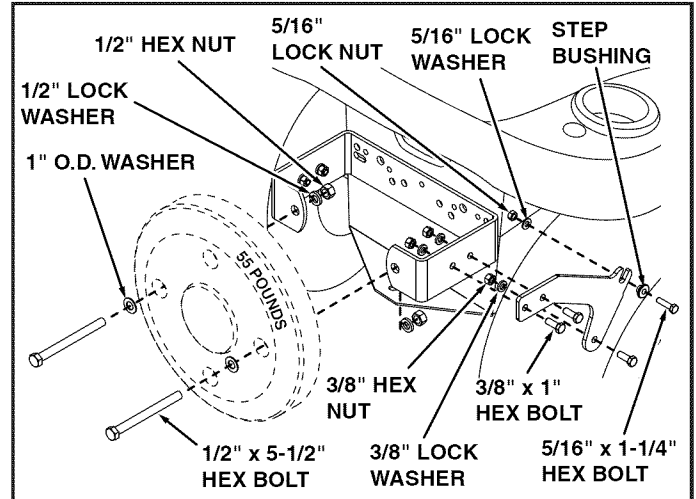

FIGURE 1
1. Assemble the non-slotted end of the weight bracket arms to the sides of the drawbar using two 3/8-16 x 1" hex bolts (3), 3/8" lock washers (10) and 3/8-16 hex nuts (12). See figure 1.
2. Assemble the slotted end of the two weight bracket arms (2) to the sides of the drawbar using two 5/16-18 x 1-1/4" hex bolts (4), step bushings (14), 5/16" washers (7) and 5/16" lock nuts (13). See figure 1.
3. Assemble the weight bracket to the weight bracket arms using four 3/8-16 x 1" hex bolts (3), 3/8" lock washers (10) and 3/8-16 hex nuts (12). See figure 1.
4. Assemble wheel weight to weight bracket (1) using two 1/2" x 5-1/2" hex bolts (15), 1" O.D. washers (6), 1/2" lock washers (9) and 1/2-13 hex nuts (11). Tighten securely. See figure 1.